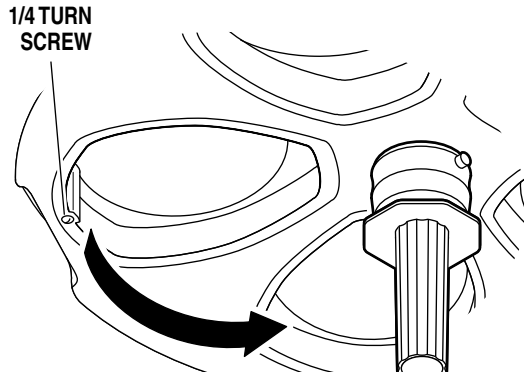

Figure 18.
1. Hold the diffuser/filter assembly with one hand, loosen the "1/4-turn" screw and lower the diffuser/filter assembly. See figure 18.